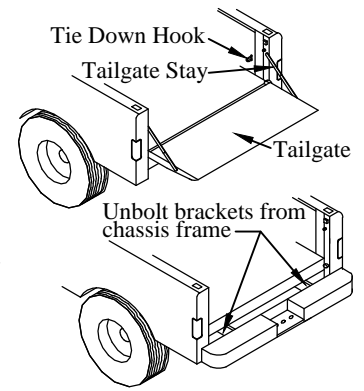

Figure 5: Remove Hardware.
2. **Unbolt** the tie down hooks (Figure 5).